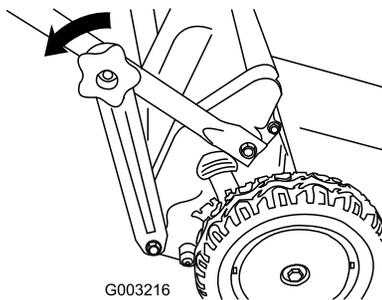

Figure 55
1. Remove the lower handle knobs (Figure 55).
2. Detach the lower handle brackets from the lower end of both handle sides (Figure 55).